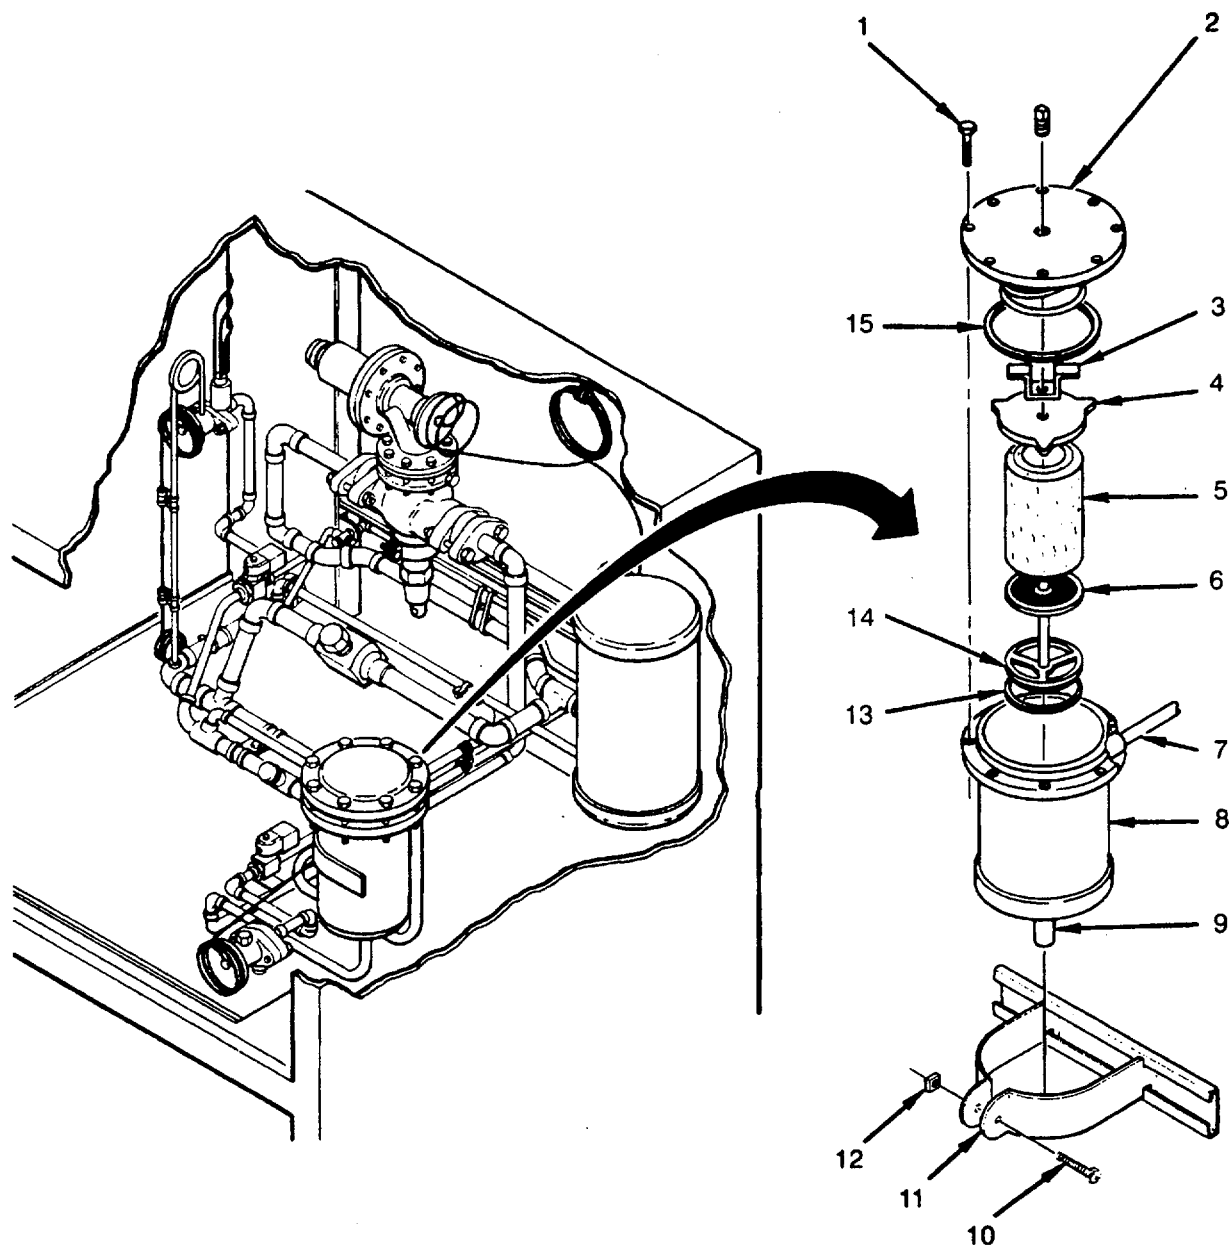

Figure 5-15. Drier Filter
1. Inspect for evidence of leaks, damaged lines, and loose or missing mounting hardware (see Figure 5-15).